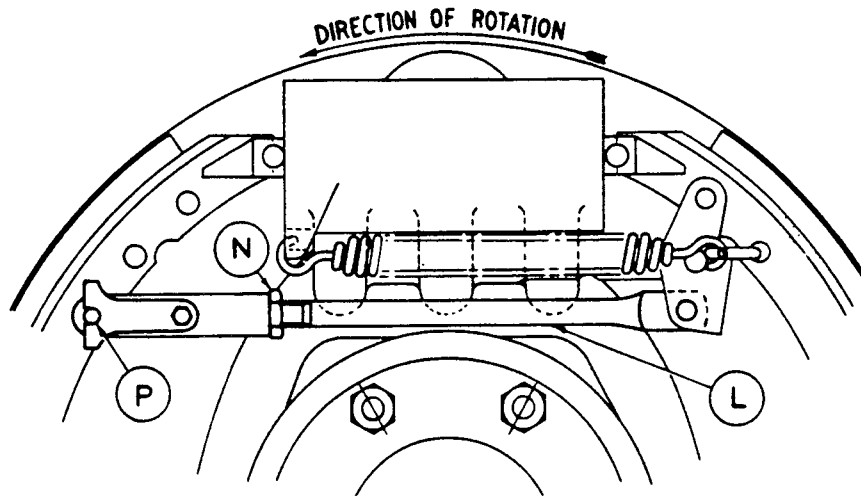

FIG. 1. DIAGRAM - SETTING INSTRUCTIONS - FRONT BRAKES.
The equal wear linkage between the two shoes also differs from the previous arrangement. The shorter of the two links is now eliminated, one arm of the balance lever being attached directly to the web of the trailing shoe, while a long link connects the other arm to the web of the leading shoe. (See Fig.1). The balance lever, instead of having a fulcrum consisting of a pin attached to the carrier plate, is pivoted on the end of a short push rod which butts against the cylinder body. The pull-off spring is also attached to the cylinder body, so that the whole assembly of shoes and inter-shoe linkage is mounted off the cylinder, and will slide bodily if the three studs attaching the cylinder to the carrier plate are loosened. The bedding of the two shoes can thus be equalised without any adjustment of the inter-shoe linkage being necessary, as was the case on the previous brake. The long link of the inter-shoe linkage is still adjustable, but this merely provides for an initial "sizing" operation to set the brake to the correct diameter over the linings to suit the drum. (See setting instructions.) The shoes have rather narrower webs than formerly, to provide a certain degree of flexibility. The same adjuster unit is used exactly as before.
- (i) Build up the brake complete, but do not fit the locking plate for pin P, Fig. 1, or lock the nut N. For an initial setting, the link L, should be adjusted to 7.375" (187.3 m/m) between the pin centres.